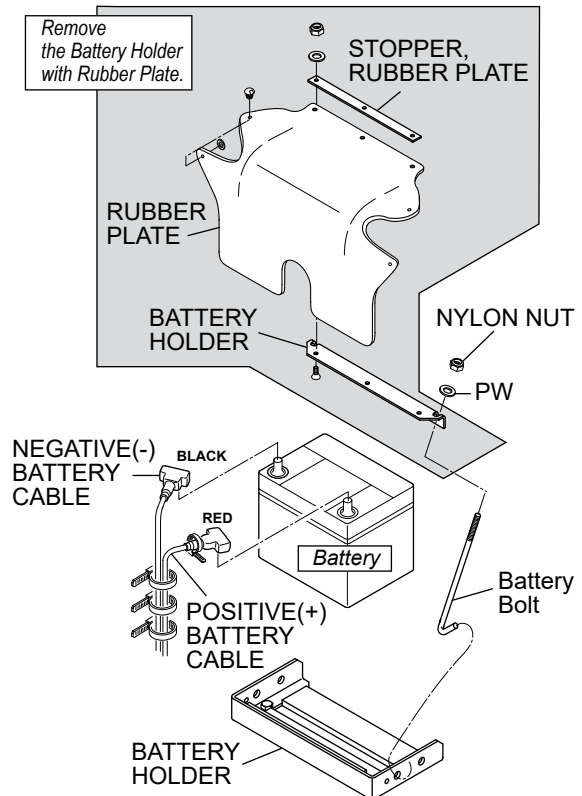

Figure 34. Battery Removal
2. Remove the two nuts and the battery holder. Then, tilt the battery backward and remove the battery by lifting up with its handle. When removing the battery holder, remove it with the rubber plate (Figure 34).